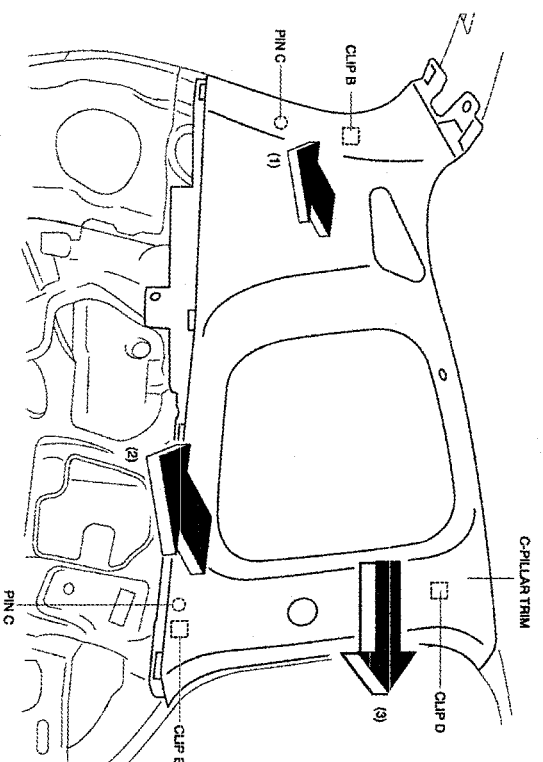

FIGURE 46
- 2.) PULL THE C-PILLAR TRIM IN THE DIRECTION OF ARROWS (1), AND (2). REMOVE C-PILLAR TRIM WHILE DETACHING CLIPS B AND PIN C. (SEE FIGURE 46)
- 3.) SLIDE THE C-PILLAR TRIM IN THE DIRECTION OF THE ARROW (3) AND REMOVE THE C-PILLAR TRIM FROM CLIP D. (SEE FIGURE 46)
- 4.) AFTER REMOVING THE C-PILLAR TRIM, REMOVE CLIPS D FROM THE BODY. (SEE FIGURE 46)